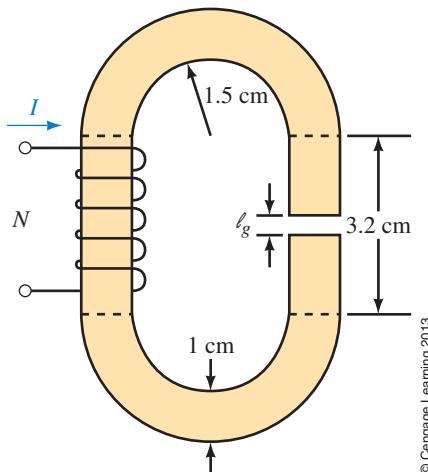

FIGURE 12-49
19. The cast iron core of Figure 12-49 measures $1 \text{ cm} \times 1.5 \text{ cm}$, $\ell_g = 0.3 \text{ mm}$, the air-gap flux density is 0.426 T , and $N = 600$ turns. The end pieces are half circles. Taking into account fringing, find current I .